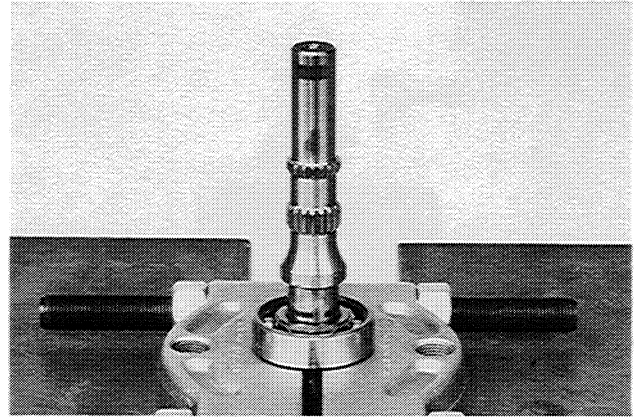

Figure 74
5. Put the pump shaft into the ball bearing so that the snap ring end of the pump shaft is down, as shown in Figure 74.